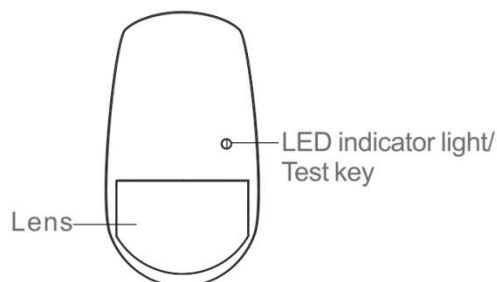

Figure 2
- 2、 Pressing the test key three times. (Figure 2)
- 3、 Red LED will blink three times while the network inclusion successful (Figure 2).